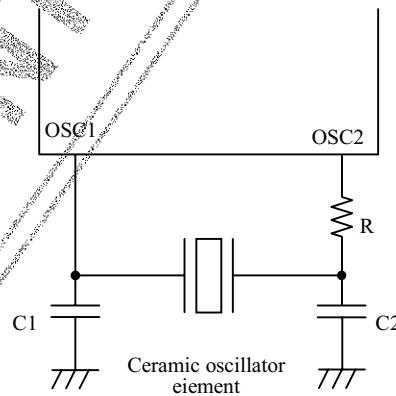

Figure 2 Ceramic Oscillator Circuit
1. When driven internally using the oscillator circuit shown in Figure 2 with guaranteed constants, values up to the amplitude of the generated oscillation are allowed.